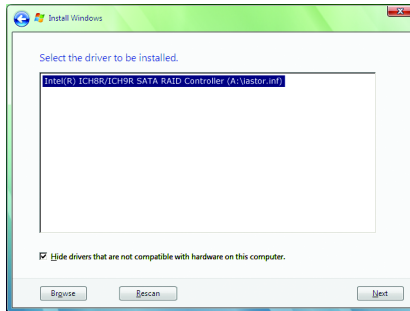

Figure 8
When a screen as shown in Figure 8 appears, select **Intel(R) ICH8R/ICH9R SATA RAID Controller** ^(Note) and press **Next**.
(Note) The item displayed in Figure 8 will be shown as **Intel(R) ICH9 SATA AHCI Controller** when the SATA controllers are set to AHCI mode.